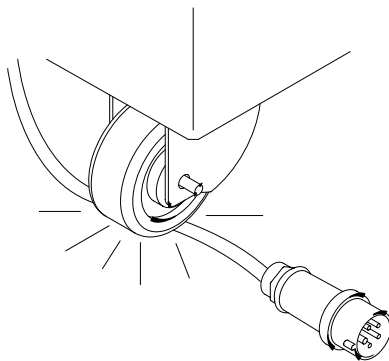

Figure 1
- Make sure that the wheels can move freely, so they never touch the power lead (see Figure 1).